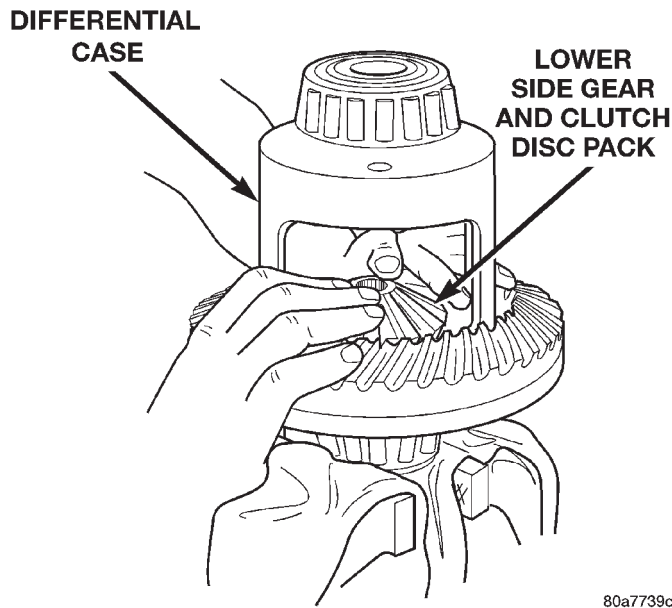
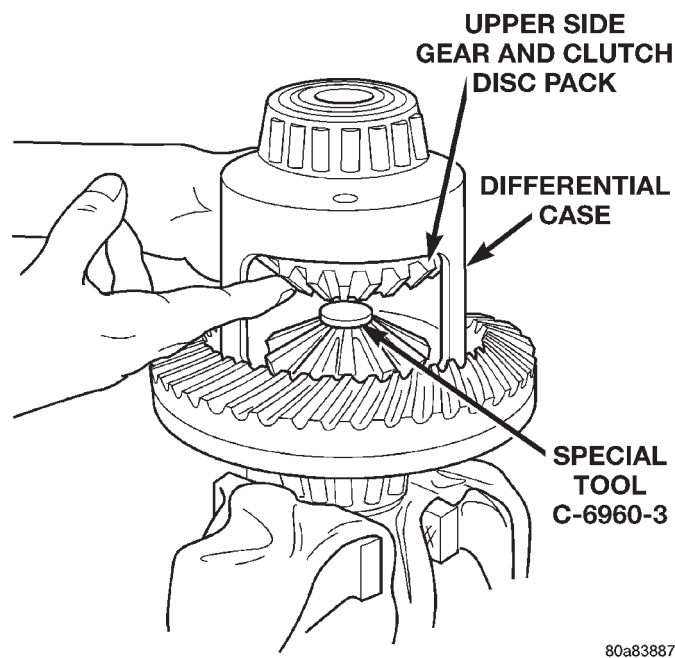

Fig. 68 Clutch Discs & Lower Side Gear Installation
Fig. 69 Upper Side Gear & Clutch Disc Pack Installation
(2) Position assembled clutch disc packs on the side gear hubs.
(3) Install clutch pack and side gear in the ring gear side of the differential case (Fig. 68). **Be sure clutch pack retaining clips remain in position and are seated in the case pockets.**
(4) Position the differential case on Side Gear Holding Tool 6965.
(5) Install lubricated Step Plate C-6960-3 in lower side gear (Fig. 69).
(6) Install the upper side gear and clutch disc pack (Fig. 69).